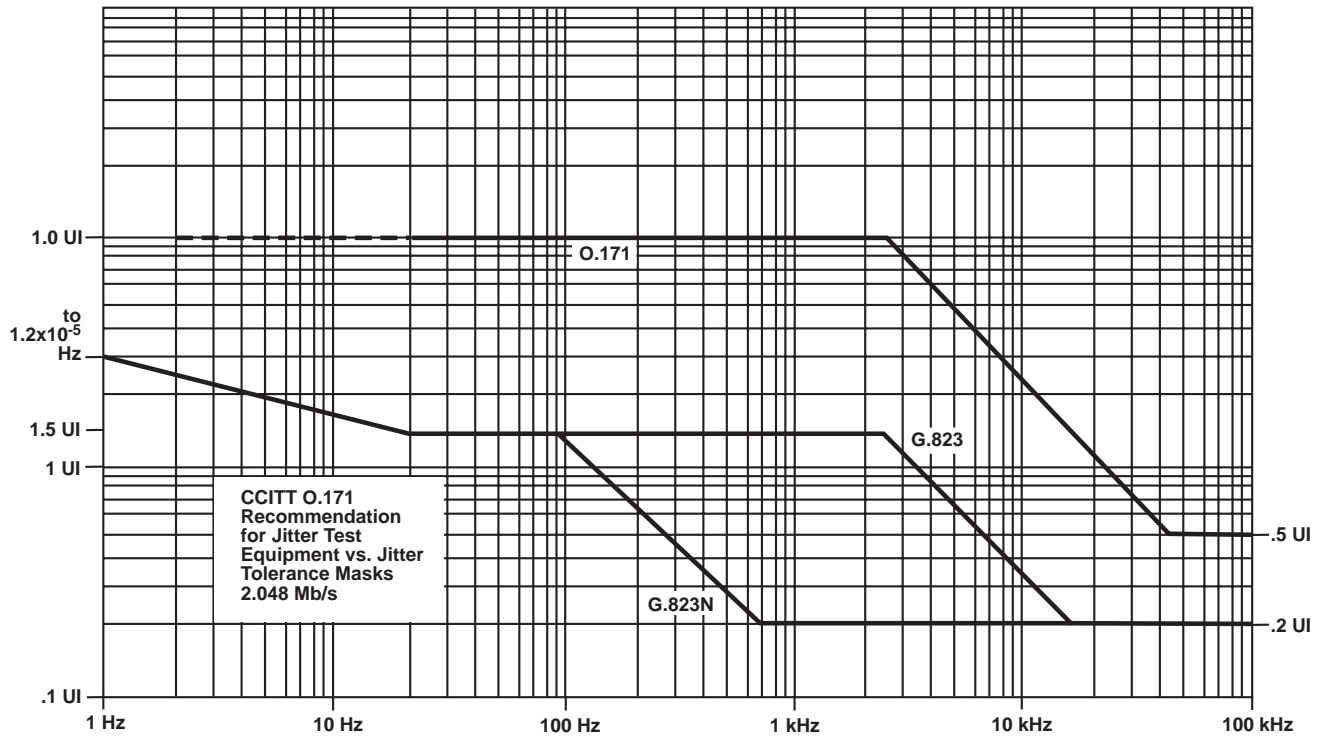

Figure B-5
The FIREBERD 6000 has a preprogrammed function which can allow the jitter generator amplitude to be set as a function of the jitter frequency and the selected mask. (See Section B.3.3 for jitter generation operation.) The masks found in CCITT Recommendations O.171 and G.823 specify jitter characteristics for G.703 equipment and systems. The masks are shown in Figures B-5 and B-6.
- The sine wave generator may be set up to automatically sweep through a number of frequencies with jitter amplitudes defined by one of the following jitter masks: O.171, G.823, or G.823N (see Figure B-5).